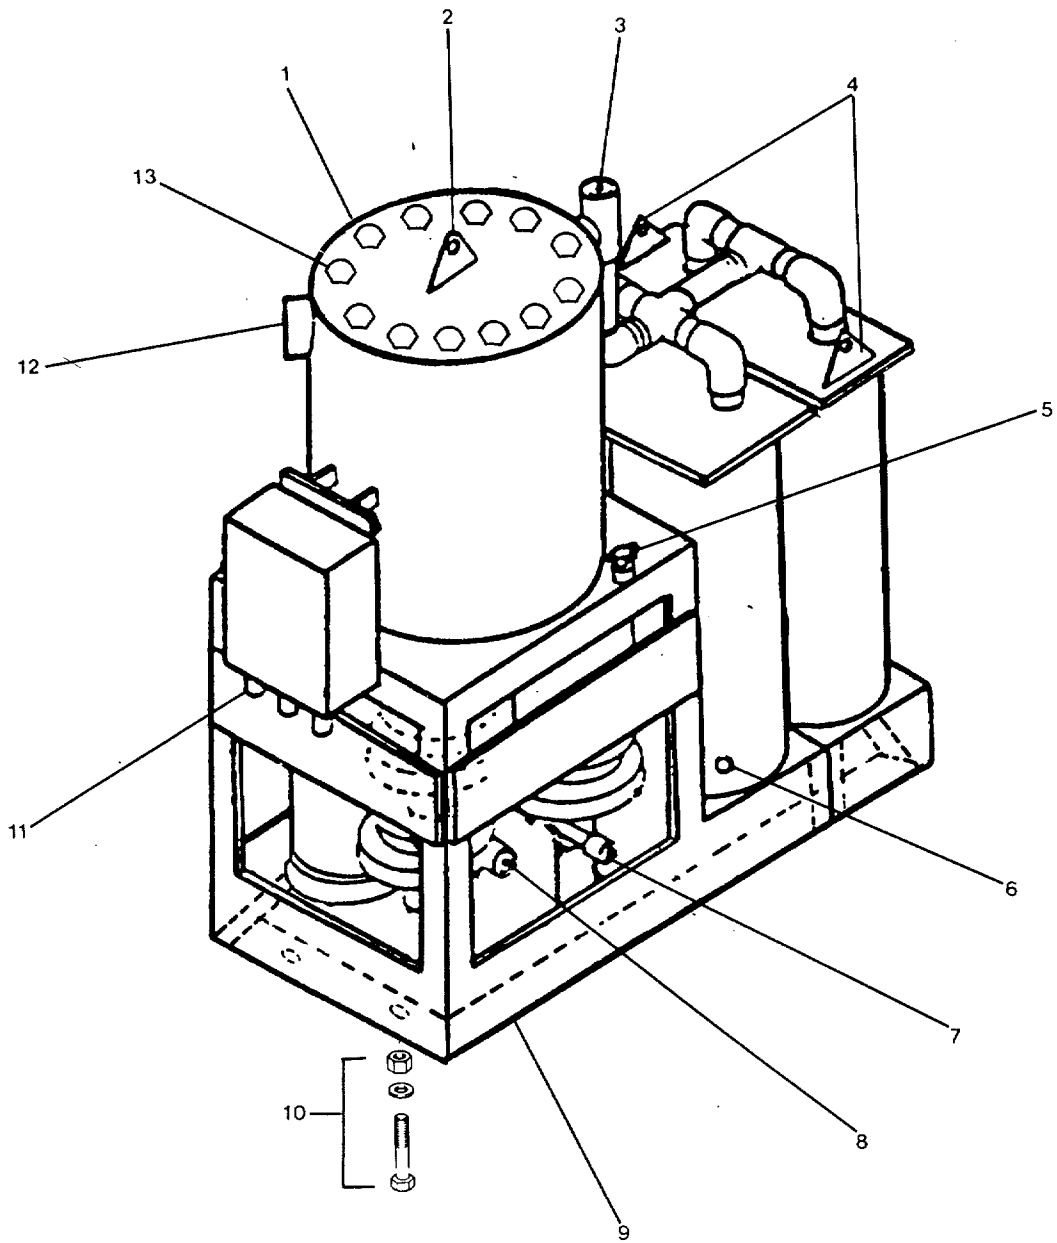

Figure 2-4. References Used When Replacing the Treatment Unit.
**2-11. Repair Sewage Treatment Unit Assembly. FIGURE 2-4.**
- c. Disconnect all cable connectors (11, FIGURE 2-4) to the electrical junction box.
- (1) Tag and disconnect all external wires to the junction box.
- (2) Pull the external wires through the bottom of the junction box. Mark the locations where each cable is removed so that it can be installed in the same connector on the new unit.
- p. When the treatment unit has been removed to an outside location, remove the drain plug (6, FIGURE 2-4) and drain excess effluent into a portable container for disposal.
- (1) Remove 12 capscrews and washers (13) in the tank cover (1, FIGURE 2-4).
- (2) Lift the cover and cover gasket from the tank. Discard gasket.
- a. Attach the lifting fixture to lifting eyes (2 and 4, FIGURE 2-4) and lift the new sanitation treatment unit into place on its mounting foundation.
- b. Install mounting screws, nuts, and washers (10) in the base of the unit (9) and tighten to 34 ft-lb.
- d. Connect sewage discharge line (8, FIGURE 2-4).
- e. Remove the temporary inlet plug and connect the sewage inlet pipe (12)
- f. Connect the backwash water supply line (7).